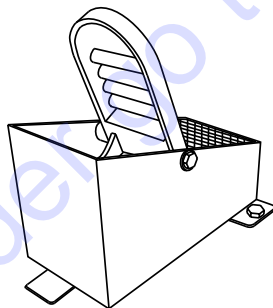

Figure 10. Blade Speed Control Foot Pedal
2. The right foot pedal (Figure 10) controls blade and engine speed. The position of the foot pedal determines the blade speed. Slow blade speed is obtained by slightly depressing the pedal. Maximum blade speed is obtained by fully depressing the pedal.